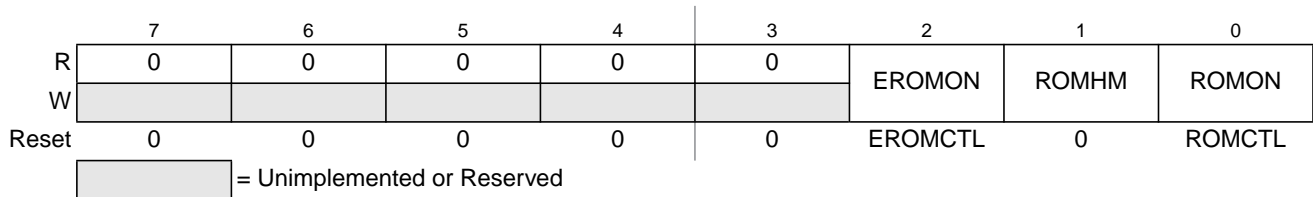

Figure 18-10. MMC Control Register (MMCCTL1)
1. ROMON is bit[0] of the register MMCTL1 (see Figure 18-10)